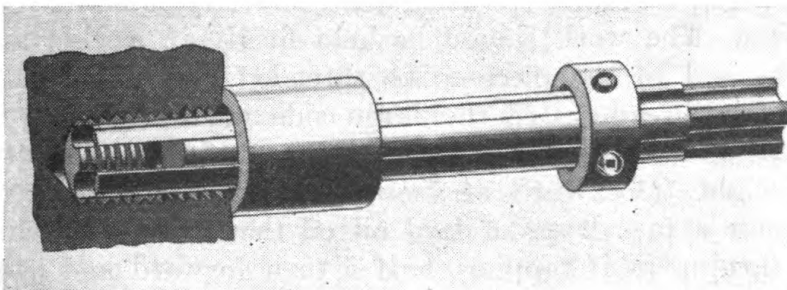

FIGURE 62.—Use of tap extractor.
(2) *Tap extractor*.—Figure 62 shows the application of a tap extractor. This tool has movable fingers which can be placed in the flutes of the broken tap, as shown, after which the collar should